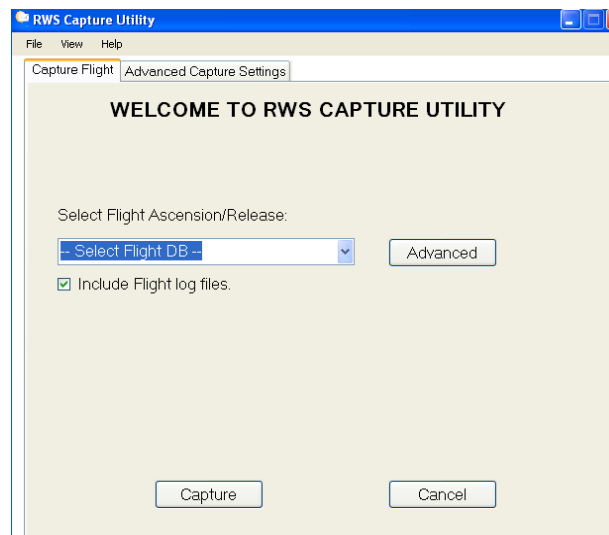

Figure B-27: RWS Capture Utility
2. Select the flight from the RWS Capture Utility pull-down menu (Figure B-27).